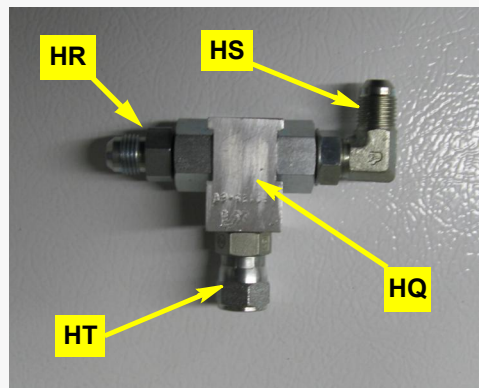

Figure 3c: Prepared load sense shuttle valve
- d. **Auxiliary hydraulics in use (see Note after 3a above):** Install adapters in the load sense valve **HQ** as follows (Figure 3c):